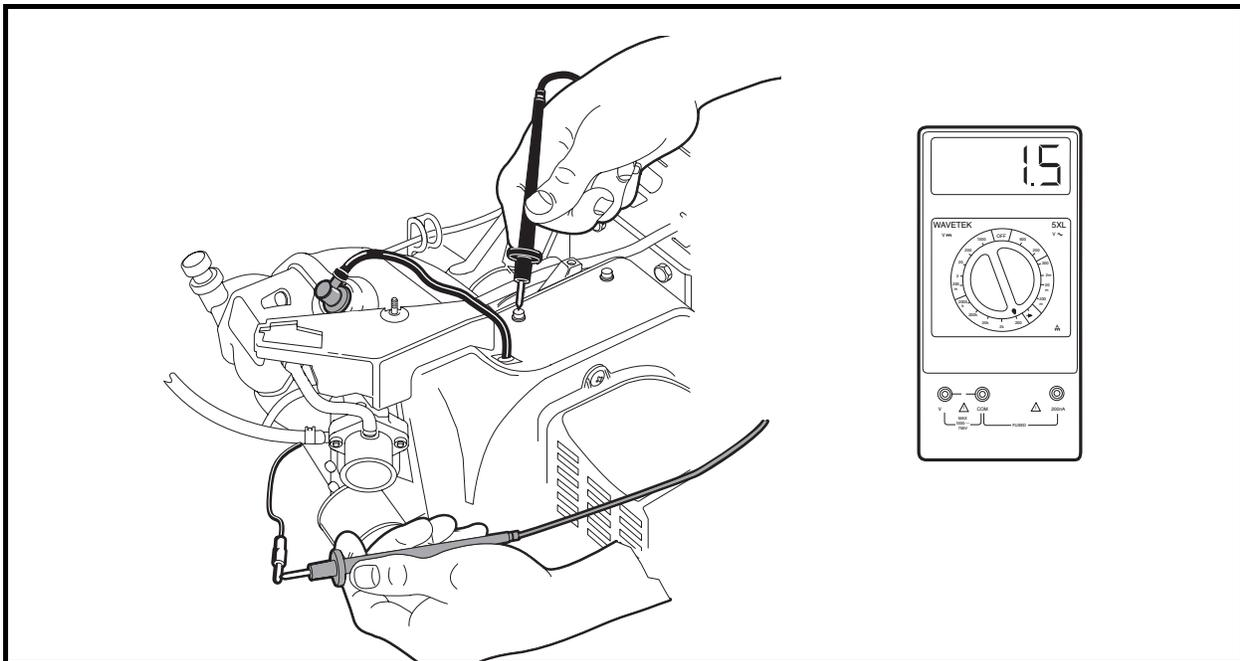

Figure 11-25 Primary Coil Resistance – In Vehicle Test
- 2.1. Disconnect both of the bullet terminals at the RPM limiter (**Figure 11-24, Page 11-25**). Place the red (+) probe of the meter on the male bullet terminal of the wire connecting to the ignition coil under the fan housing, and place the black (-) probe on a clean unpainted surface of the engine or frame (**Figure 11-25, Page 11-26**).